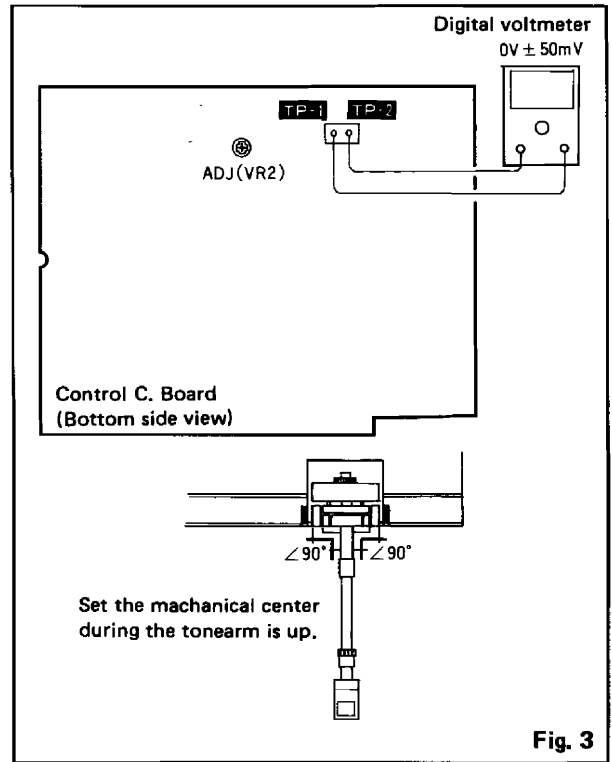

Fig. 3
- 1) As in Fig. 3, set the tonearm mechanically at the center when it is in the raised position, turn the power switch to "ON".
- 2) Connect a digital voltmeter or a similar test meter to the test points TP1 and TP2 in the control circuit board. And adjust the volume of VR2 (2.2 k ohms) to set at 0V±50mV (see Fig. 3).